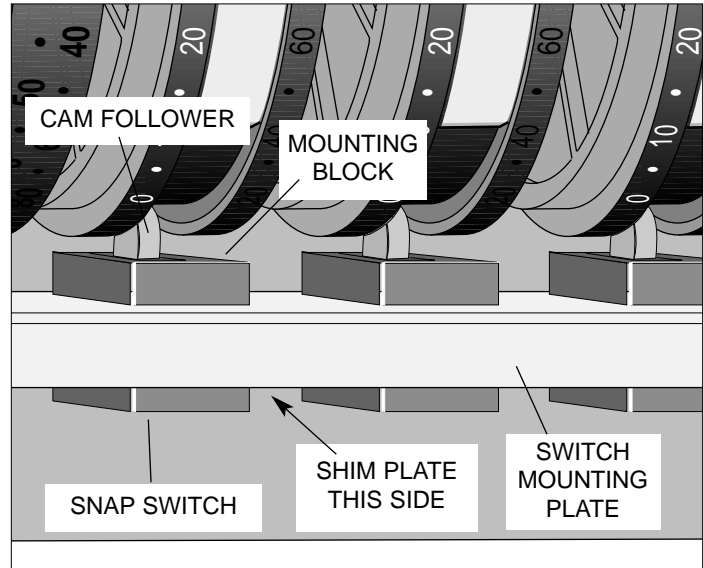

Figure 4. Switch Replacement
4. Remove two screws retaining switch, mounting block and shim. Remove old switch assembly (Fig 4).